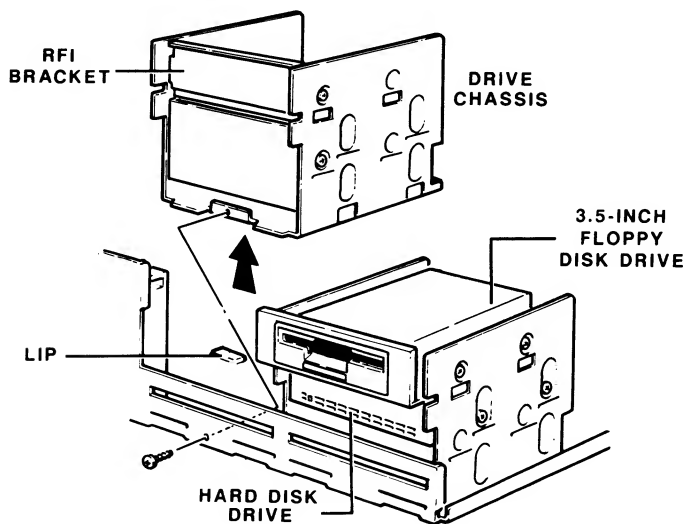

Figure 5-14. Removing the Drive Chassis
2. Remove the screw from the front of the drive bracket as shown in Figure 5-14.